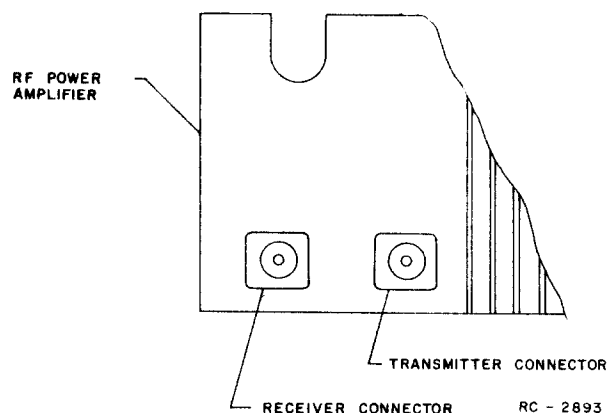

Figure 10 - Transmitter and Receiver Connections
1. Connect the station as shown in Figure 10 & 11. Adjust the signal generator to produce 12 dB SINAD.